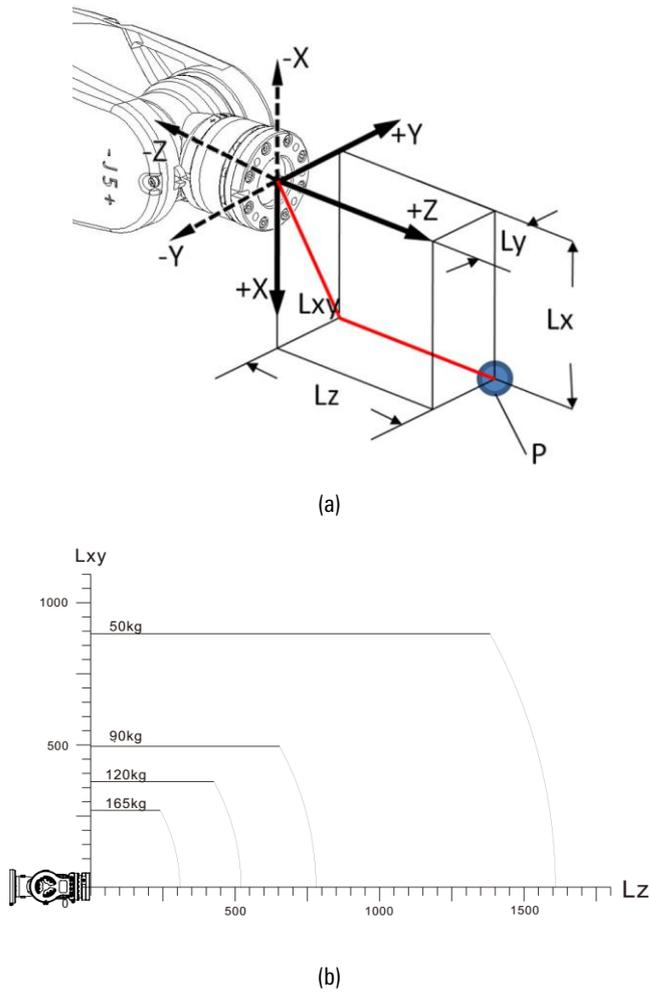

Figure 9-4 Location of wrist load center of AIR165-2750A manipulator
- The load conditions shall be within the limits shown in the Figure 9-4 and Table 9-4.
The wrist load line diagram of AIR165-2750A manipulator is shown in Figure 9-4.